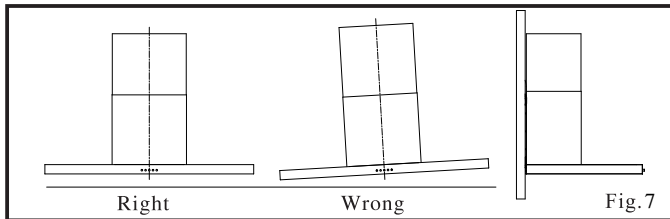

Fig.7
- Fix the external vent to outlet ,then feed it through to external wall. See Fig.7.
- After installation, make sure that the extractor is placed horizontally to avoid grease collection at one end. See Fig.7.
Speed adjustment. See Fig.7